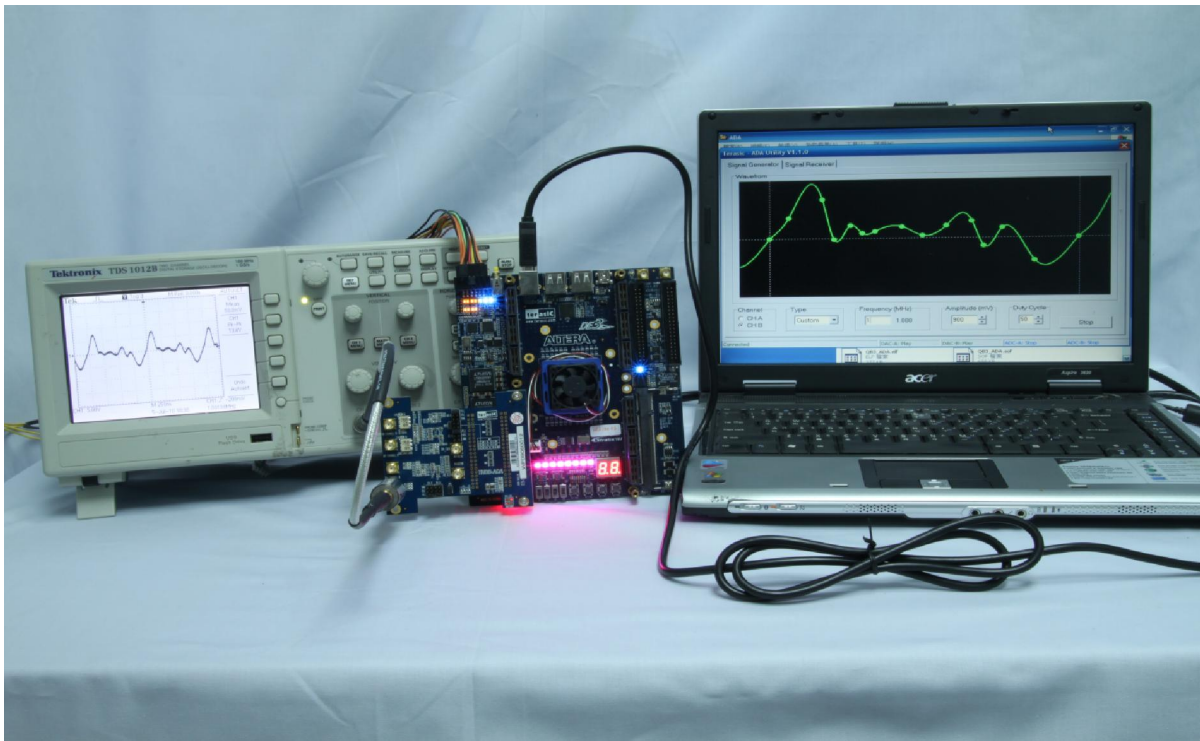

Figure 4-1 Configuration Setup of Random Waveform Generator on DE3
This section illustrates the implementation of random waveform generator using ADA. **Figure 4-1** is the complete setup of an ADA connected on DE3. Simply perform the following steps to display any pattern generated from PC-based GUI on an oscilloscope. The <path> is the directory where you copy the reference design folder, DE3_ADA, from CD to your PC.
1. Connect the ADA-HSMC to DE3, as shown in **Figure 4-1**.